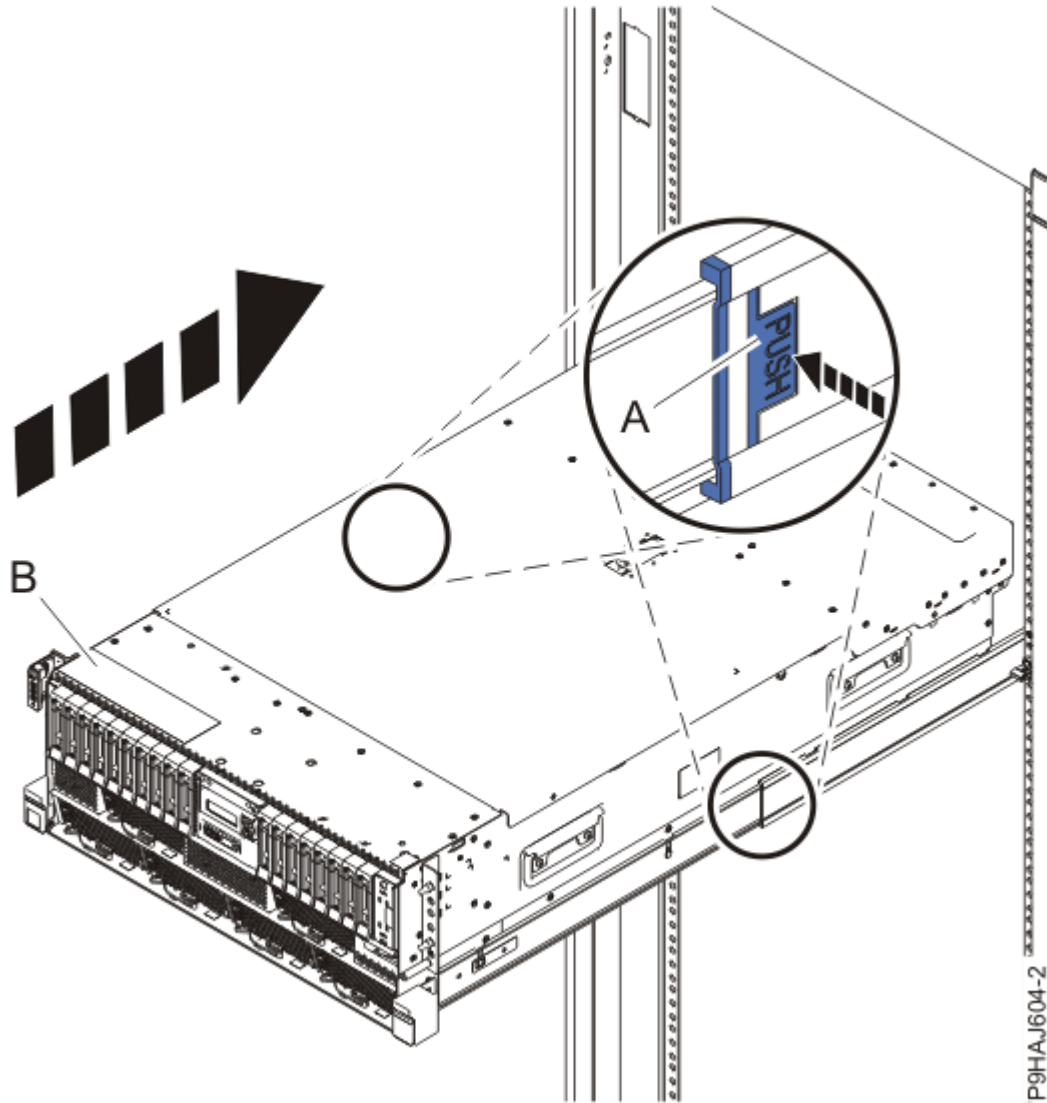

Figure 23. Placing the system into the operating position
3. For a rack-mounted system, unlock the blue rail safety latches (**A**) as shown in Figure 23 on page 26 by pushing them inward.